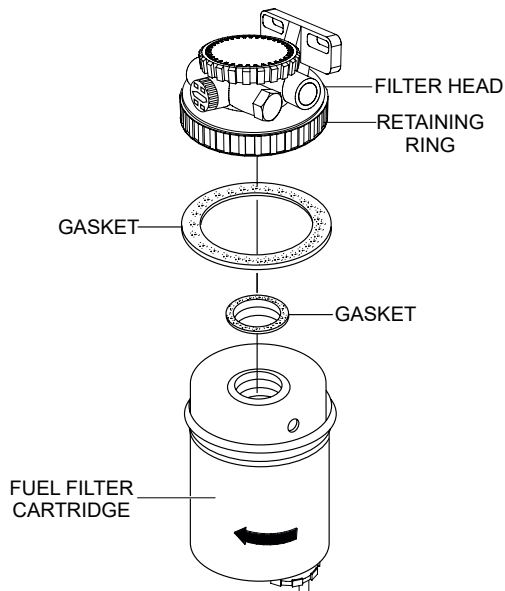

Figure 61. Fuel Filter Cartridge Replacement
1. Use a filter wrench to remove the fuel filter cup (Figure 61) from the fuel filter head.